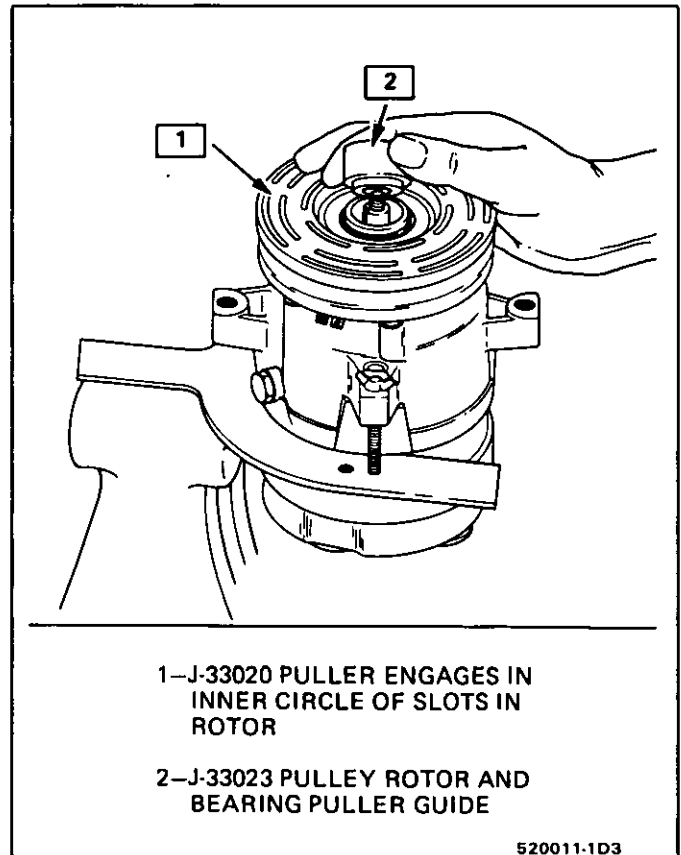
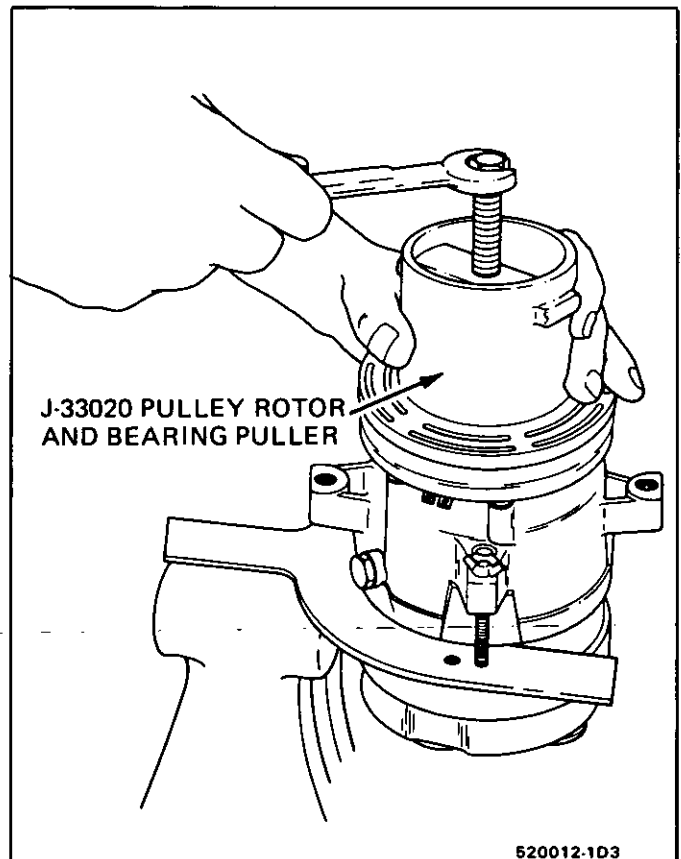

Fig. 11 Installing Pulley Rotor/Bearing Puller Guide
Fig. 12 Removing Pulley Rotor and Bearing Assembly
- Install pulley rotor and bearing puller guide J-33023 to the front head (Fig. 11) and install J-33020 pulley rotor and bearing puller down into the inner circle of slots in the rotor. Turn the J-33020 puller clockwise in the slots to engage the puller tangs with the segments between the slots in the rotor (Fig. 12).
Remove the forcing screw from J-33020 puller and, with the puller tangs still engaged in the rotor slots, invert the assembly onto a solid flat surface or blocks as shown in Fig. 12.